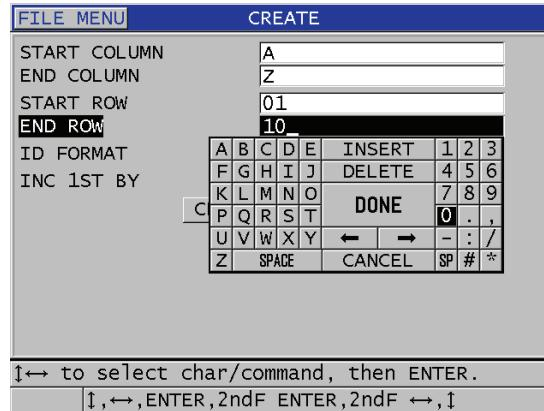

Figure 11-10 Configuring the ID range for a 2-D grid data file type
3. In the second page of the CREATE screen (see Figure 11-10 on page 166):